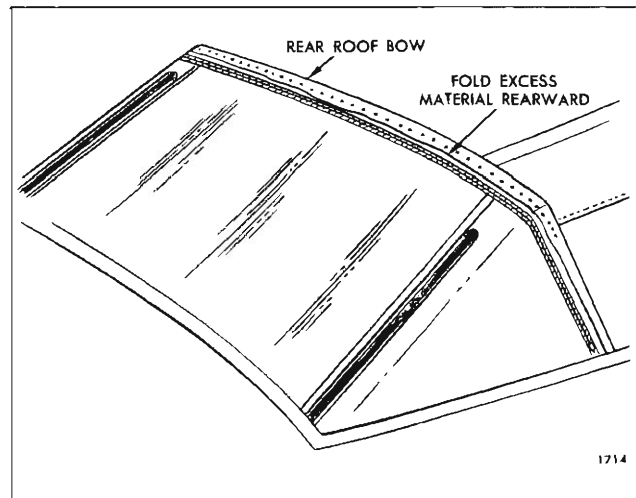

Fig. 2-I-46 — Back Curtain Installation at Rear Roof Bow
14. Where required, place reference chalk mark on outer surface of back curtain along pinchweld finishing molding. Re-adjust back curtain assembly as required, (Fig. 2I47).